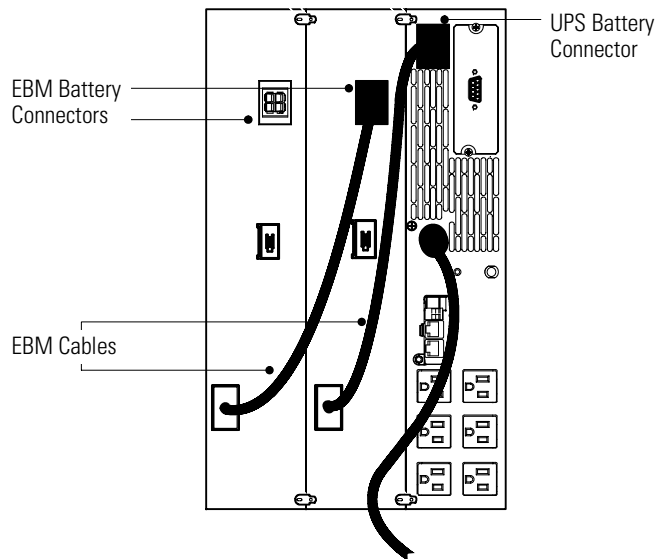

Figure 6. EBM Connections
4. Plug the EBM cable(s) into the battery connectors (see Figure 6). Up to four EBMs may be connected to the UPS.